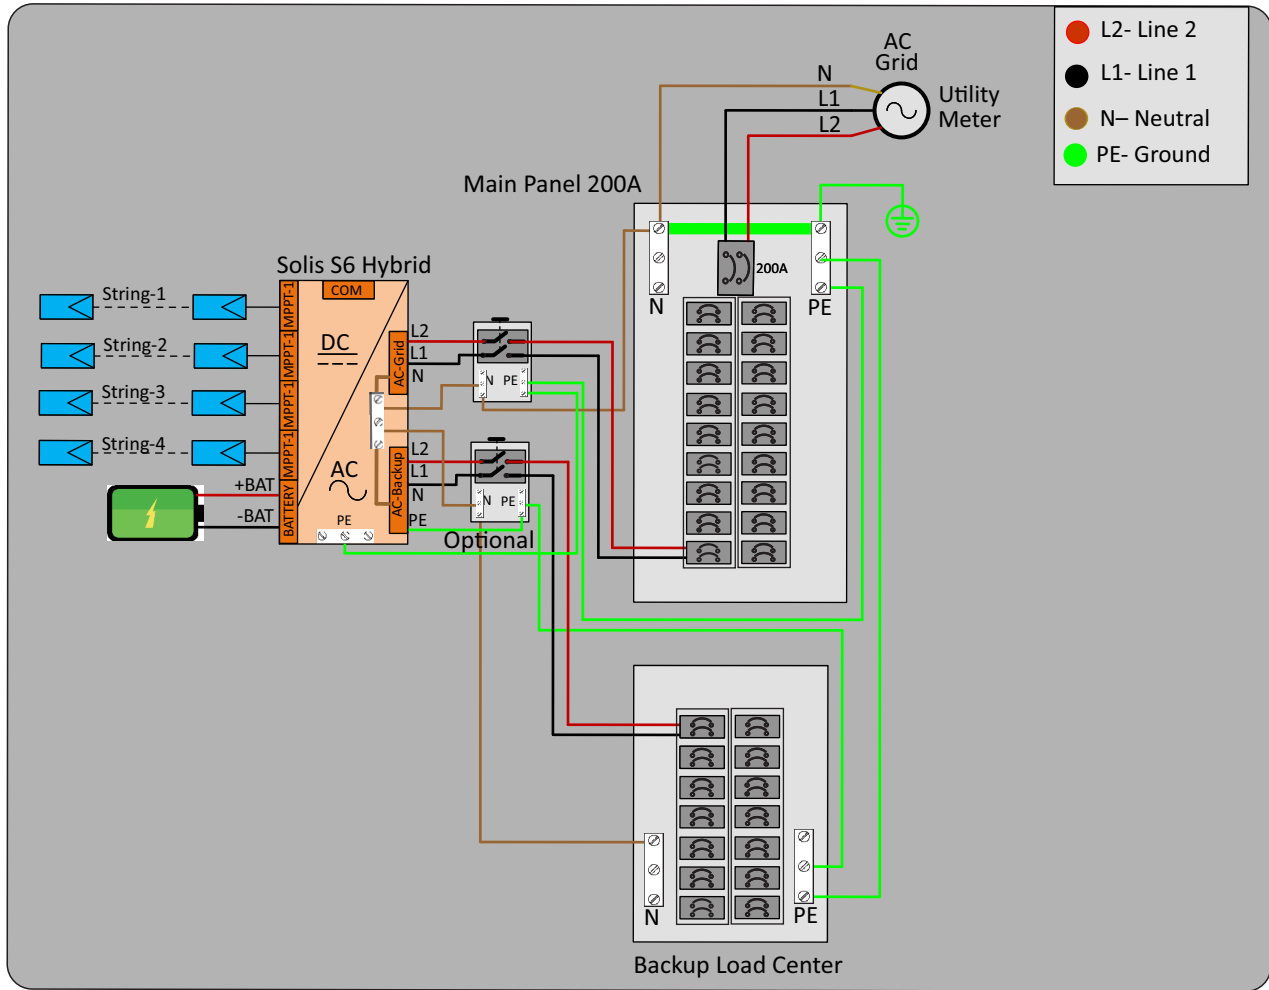
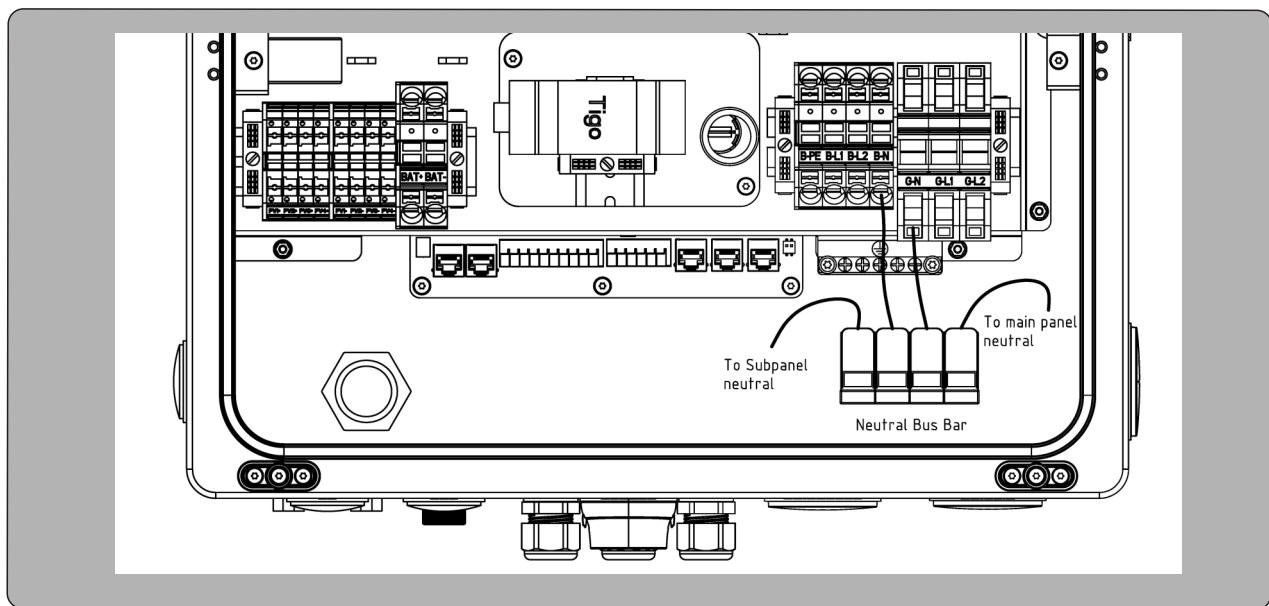

Figure 1
Figure 2
The installation wiring should match the Figure 1 and Figure 2 diagram on the next page to ensure proper and safer system operation. It is essential to connect the neutral according to the diagrams. Following the diagrams ensures that the home loads are never left without a neutral regardless of the AC bypass switch position. If you have any questions or comments, email usservice@solisinverters.com or call the support team at (866)438-8408.
Warranty Note: Installations that fail to comply with the wiring method shown in Figure 1 will void the Solis US warranty and any damage caused by improper wiring will not be covered.